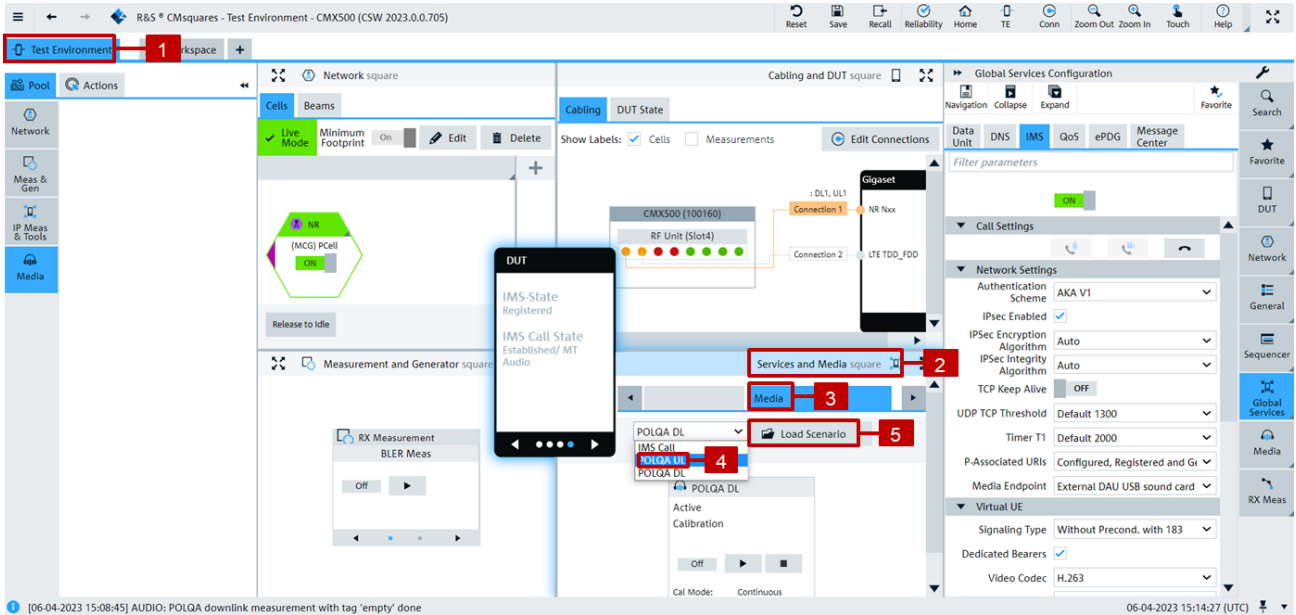

Figure 4-9 Select and load 'POLQA UL' scenario
1. Select and load 'POLQA UL' scenario with the steps indicated in Figure 4-9